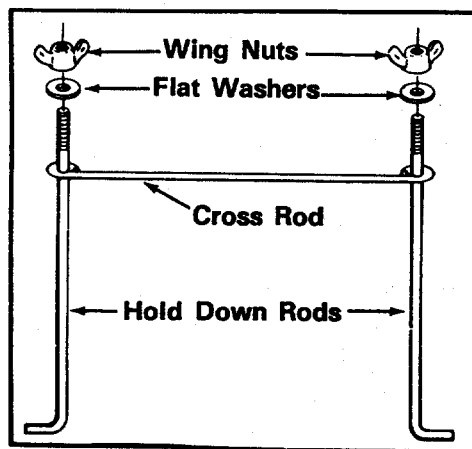

FIGURE 2.
4. Assemble the hold down rods and cross rod before you place it over the battery. (See figure 2.)